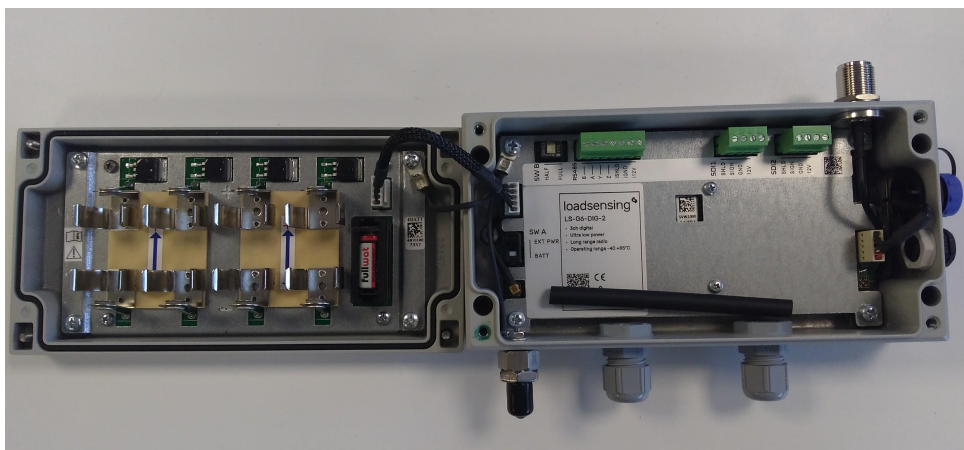

Figure 3: Opened digital node
1. Use a 2.5 mm Allen wrench to open the data logger following the positions in Figure 3, to avoid damaging the lateral gore valve. The batteries are inserted into the cover, so be careful not to snap the cable between the cover and the main board.